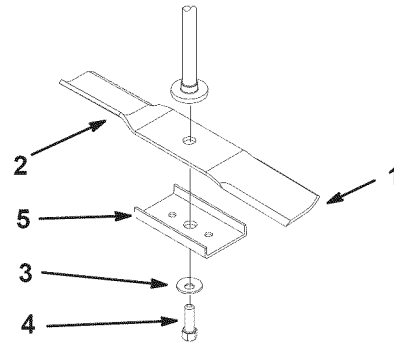
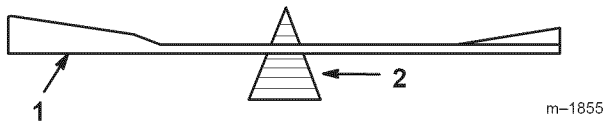

Figure 27
Figure 29
Hold the blade end using a rag or thickly-padded glove. Remove the blade bolt, curved washer, blade stiffener, and blade from the spindle shaft (Fig. 27).
2. Check the balance of the blade by putting it on a blade balancer (Fig. 29). If the blade stays in a horizontal position, the blade is balanced and can be used. If the blade is not balanced, file some metal off the end of the sail area only (Fig. 27). Repeat this procedure until the blade is balanced.
1. Install the blade onto the spindle shaft (Fig. 27).
2. Install the blade stiffener, the curved washer (cupped side toward the blade) and the blade bolt (Fig. 27). Torque the blade bolt to 35–65 ft-lb (47–88 N·m).